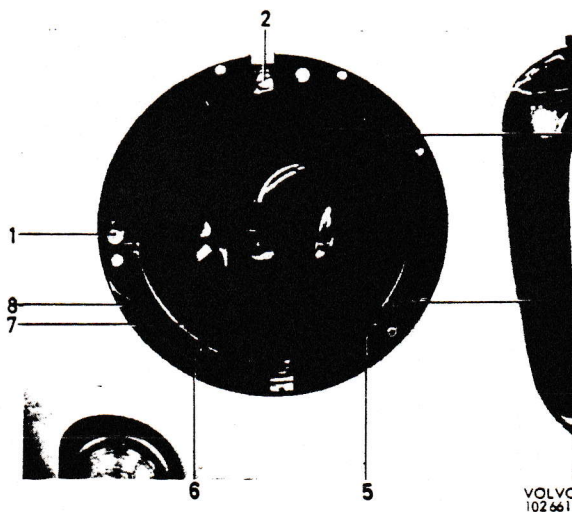

Fig. 78. Headlamps bowls
4. Slacken the screws (1 and 2, Fig. 78) for headlamp adjustment 8—10 turns. Unhook the springs (3—6) from the bowl (7) and lift out the bowl from the casing (8).
Adjusting is done by turning the screws (1 and 2, Fig. 78).